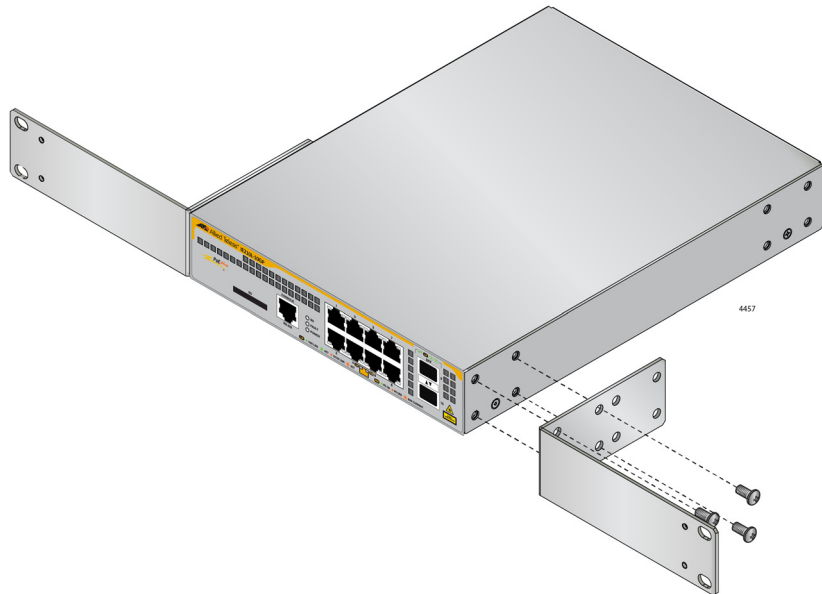

Figure 12. Attach Rack Mount Brackets to AT-IE210L-10GP Switch
1. Attach two rack mount brackets to the sides of the switch using eight bracket screws . Refer to Figure 12.